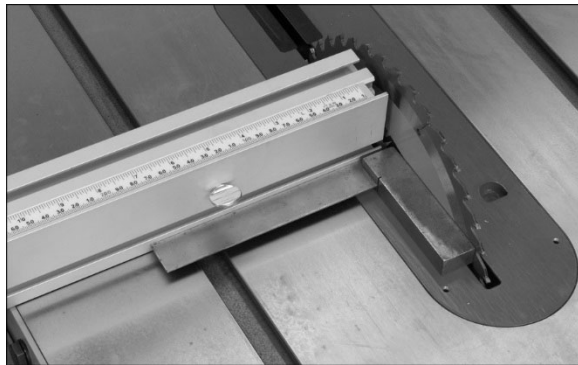

Figure 8-4
2. Install fence in front position, and slide it laterally until it is close to blade, as shown in Figure 8-4.